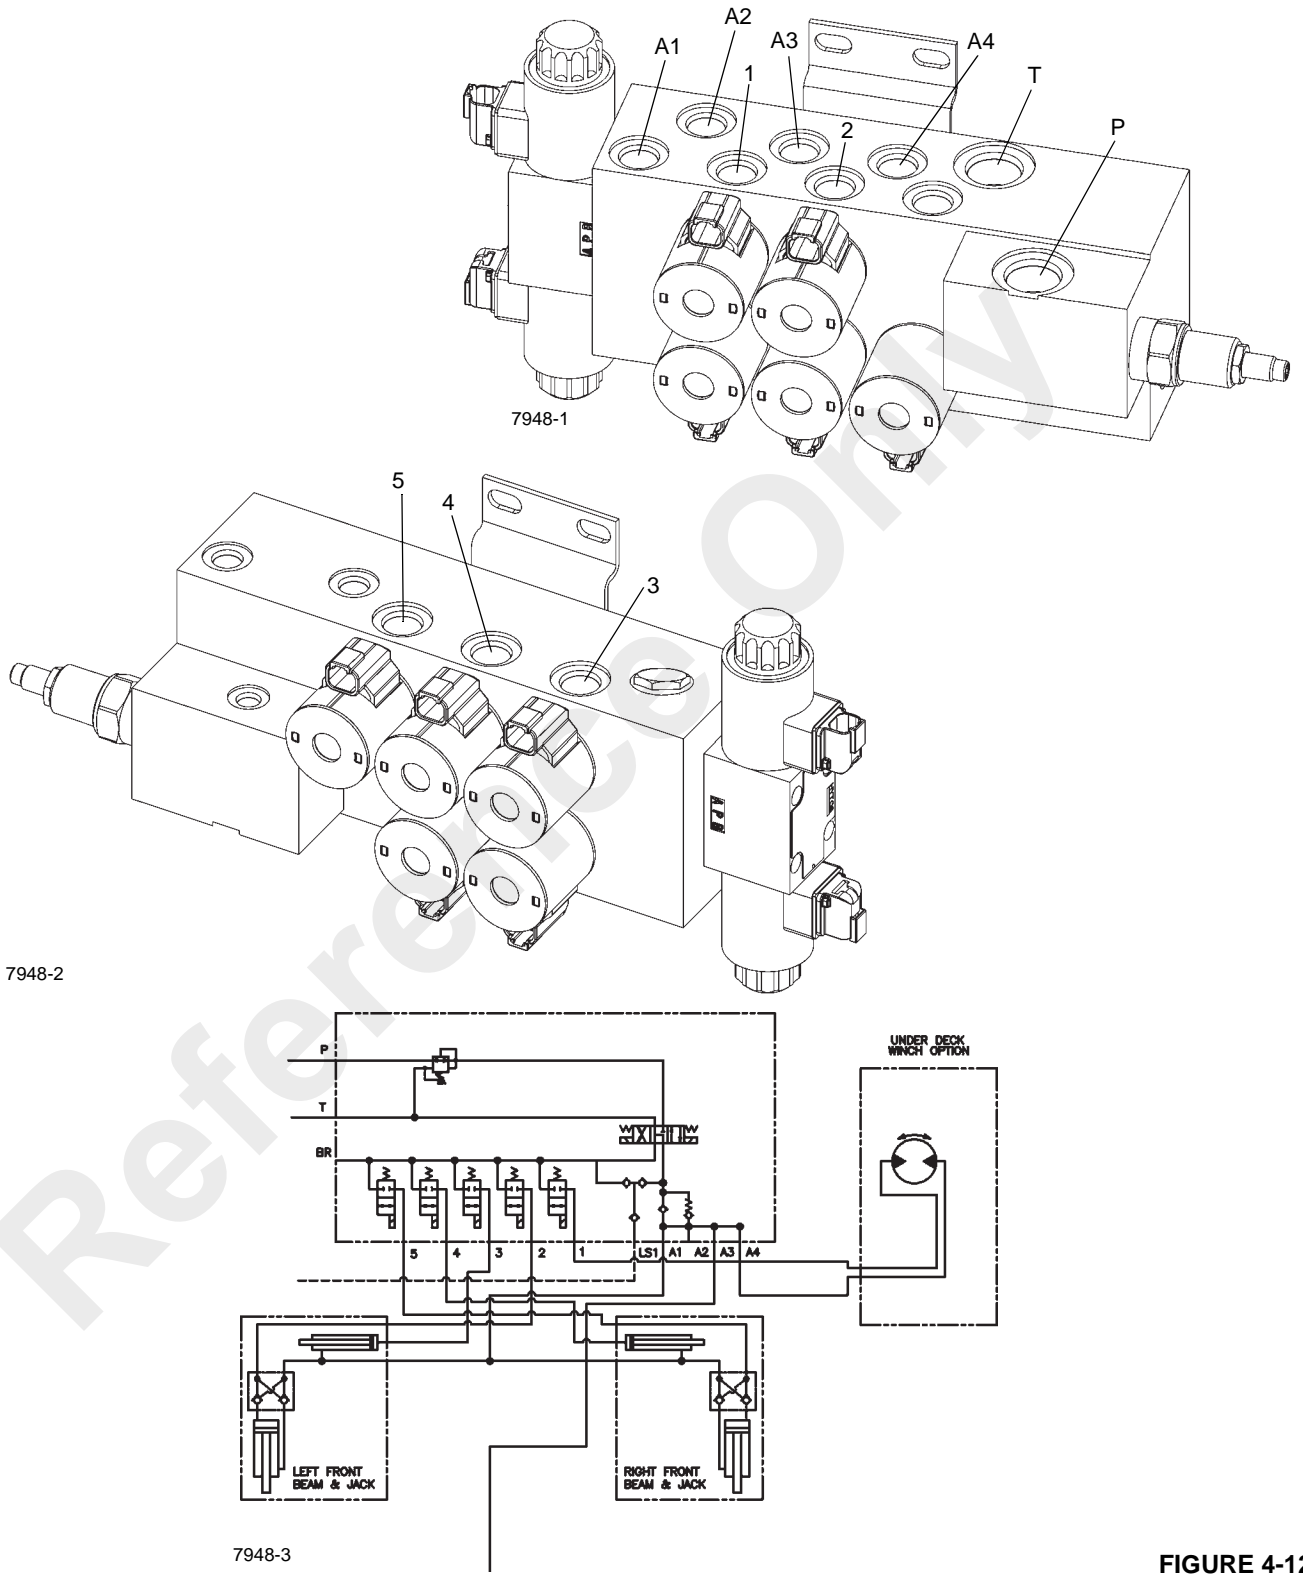

FIGURE 4-12
**Table 4-7: Port Identification Figure 4-12**